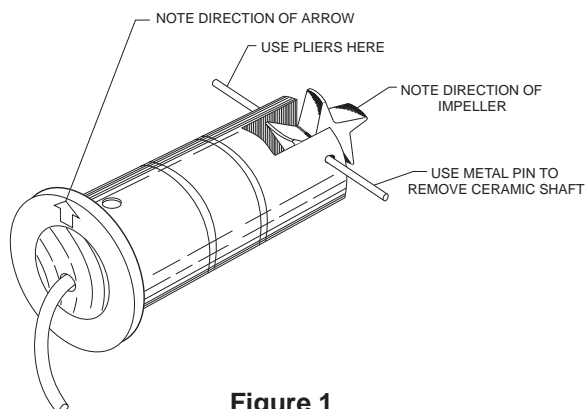

Figure 1
- 7) Refer to Figure 1 below. To reinstall, position the impeller in the cavity oriented as in Step 4 so that the impeller blades point into the flow direction. The flow direction arrow on the top of the sensor housing should point downstream with the impeller blades pointing upstream.